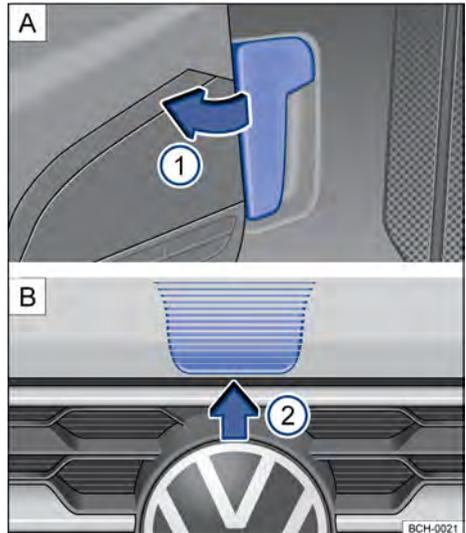

Fig. 187 **A** Bonnet release lever on the driver side footwell. **B** Bonnet release lever on the inner side of the bonnet.
- Ensure that the windscreen wiper arms are positioned on the windscreen before opening the bonnet → ①.
- Open the driver door and pull the release lever in the direction indicated by the arrow → Fig. 187 [A] ①. The bonnet is released from its lock by a spring mechanism → ▲.
- To fully open the bonnet raise it slightly and at the same time press the release lever on the inner side of the bonnet in the direction indicated by the arrow → Fig. 187 [B] ②.